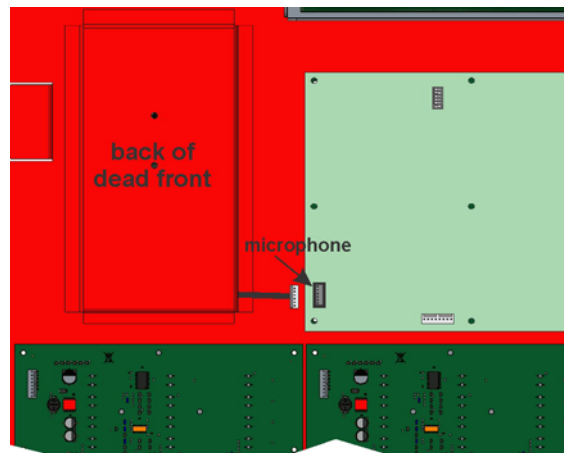

Figure 7 Microphone Cord Inserted Through the Dead Front Panel Hole
2. Insert the microphone cord through the hole on the side of the dead front panel. See Figure 7.